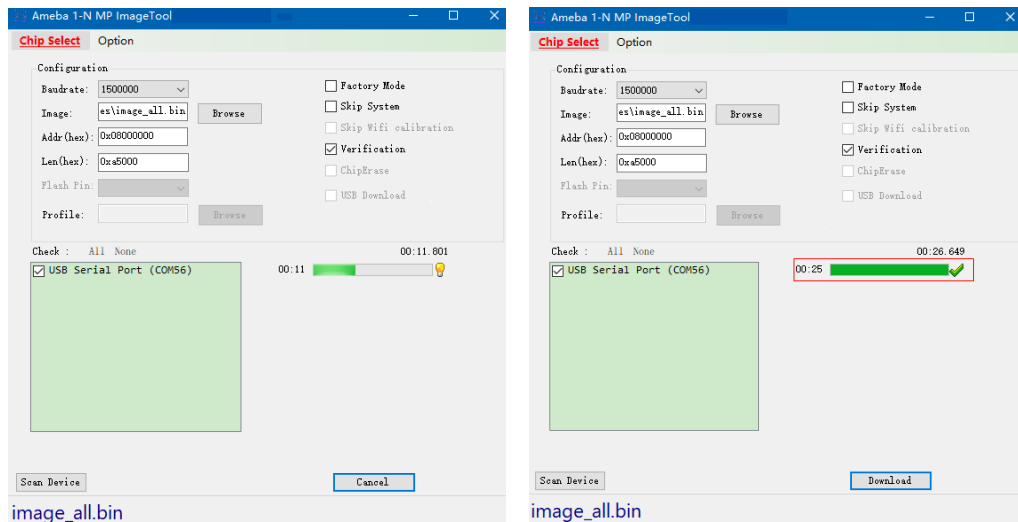

Figure 3-2 Image download is ok
- If the image download is in process, as Figure 3-2 shows, a light bulb shows up at the end of each progress bar, and a stopwatch measures the elapsed time. When image download is finished, a green tick shows up.